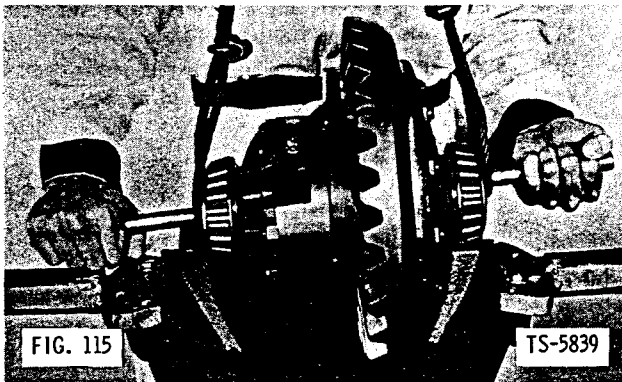

FIG. 115
7. Position differential carrier and pinion assembly in differential stand so that pinion shaft is down. Insert bar through differential to facilitate hoisting. Position differential into carrier (Fig. 115).